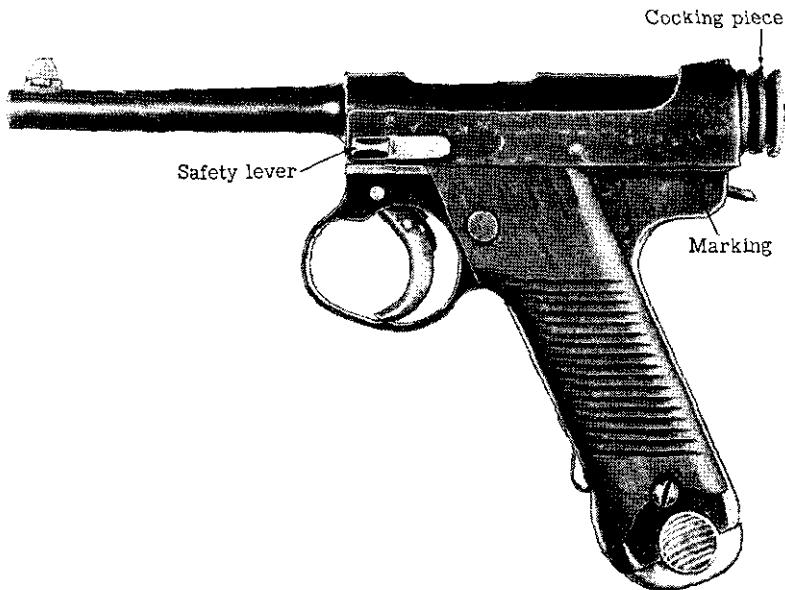

Figure 8.—Model 14 (1925) 8-mm pistol (left side).
The Model 14 (1925) 8-mm pistol (fig. 8) is a development of the *Nambu* (par. 5, p. 7). Both pistols use the same ammunition. The design, like that of the *Nambu*, is original, but the workmanship is usually poor. Un-
- (1) The horizontally grooved wooden grips.
- (2) The distinctive shape of the cocking piece at the rear end of the bolt.
- (3) The absence of the recoil-spring housing on the left side of the receiver, noticeable on the *Nambu*.
- (4) The marking +四式 which is on the left side of the receiver at the rear (fig. 8). (This marking,